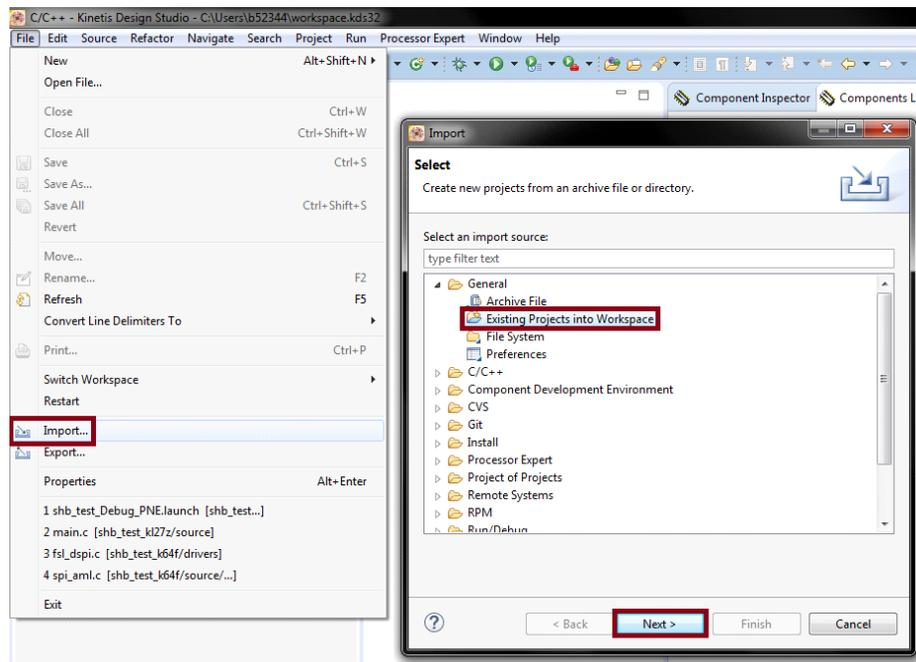

Figure 9. Importing an example project
2. In the **Devices** dialog box, select the MCU class to use (in Fig 9 MKL25Z128xxx4 has been selected). Then click **Next**.